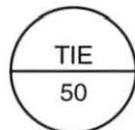

Figure 44. Instrument Tag
2. Determine the measured variable indicated in the instrument tag in figure 44.